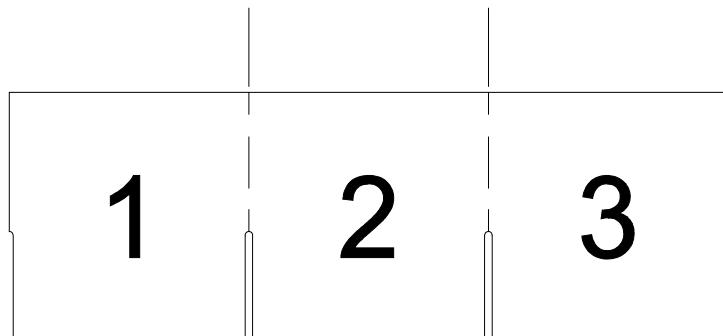

Figure 28. Shingle cut into thirds
- 4. Install shingle cap.** Starting at the opposite end of the home from the prevailing wind, install ridge cap shingles provided by the manufacturer or use 12" x 12" shingles (36" shingles cut into three equal pieces indicated by the dotted line in **Figure 28**). Install using 12 ga x 1-1/4" long, 3/8" diameter head roofing nails spaced 5-5/8 inches from bottom edge and 1/2 inch to 1-1/2 inches in from both edges.